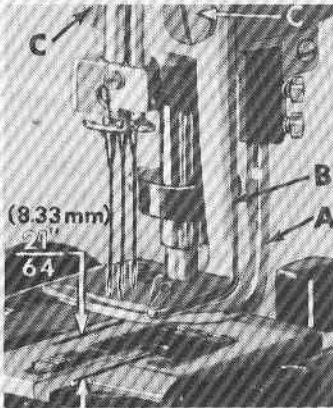
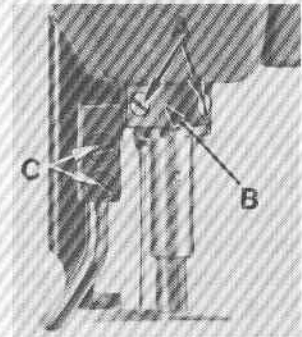

Fig. 16
Fig. 17
With the needle bar in the up position, and the spreader (A, Fig. 16) at the left end of its stroke, the upper spreader point should extend $7/32$ inch (5.56 mm) to the left of the center line of the left needle. This is accomplished by loosening screws (A, Fig. 17) and rotating spreader holder (B) to position the upper spreader point. Retighten screws.
CAUTION: The spreader holder is also the lower thrust collar for the spreader shaft, so when tightening screws (A, Fig. 17) be sure to push down on the spreader shaft and up on the spreader holder.
The spreader should clear the left needle shank by $1/64$ to $1/32$ inch (.40 to .79 mm) and the bottom of the spreader should be $21/64$ inch (8.33 mm) above the throat plate (Fig. 16). To adjust, loosen screws (C, Fig. 17) and position spreader as required.
The left edge of the spreader thread guide (B, Fig. 16) should clear the right needle by approximately $3/32$ inch (2.38 mm) and be kept close to the top of the spreader. This is accomplished by loosening screws (C) and moving the guide as necessary.